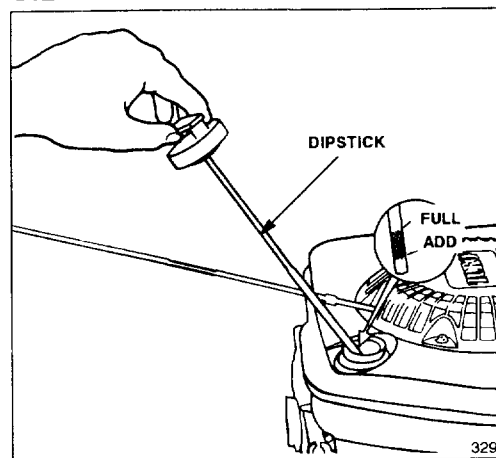

Figure 4
Before each use, ensure oil level is between FULL and ADD marks on dipstick (Fig. 4). Add oil if level is at or below ADD mark.
3. Wipe dipstick and insert it into filler neck. Rotate cap clockwise. Then remove dipstick and check level of oil on side of dipstick with FULL and ADD marks (Fig. 4). If level is low, add only